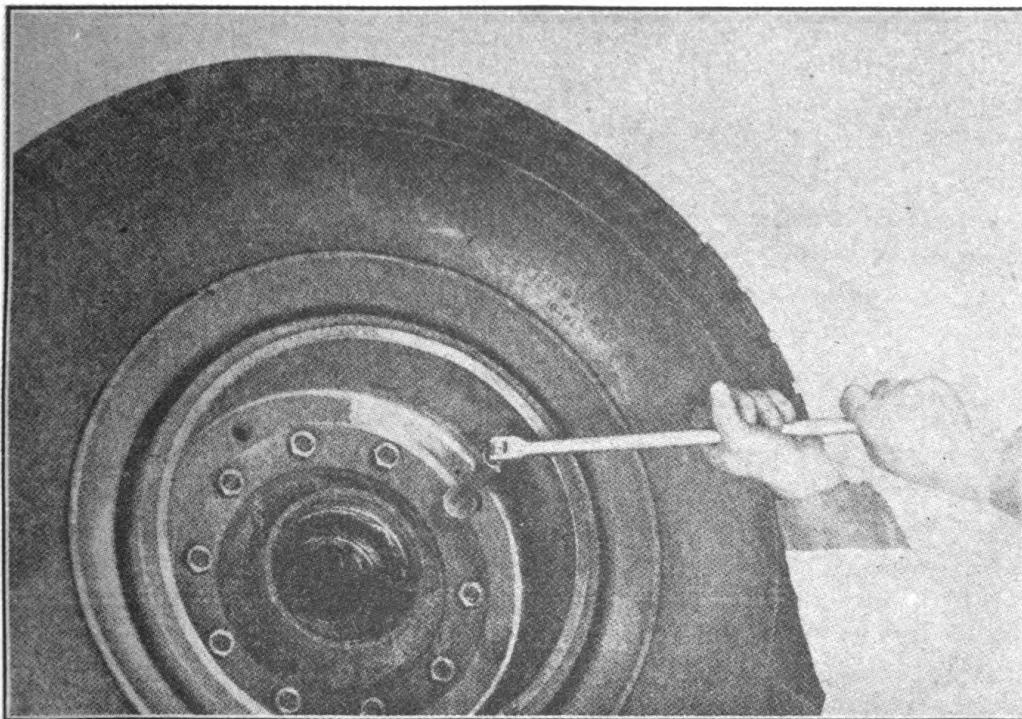

FIGURE 25. DRUM REMOVAL
(1) Remove wheel and hub in an assembly.
(2) If changing drum on the front wheel, block the wheel at both sides and remove the drum by removing the ten nuts holding it to the hub assembly (Figure 25). When removing rear drums it will be necessary to remove wheel assembly from hub and the hub assembly from axle. Remove the six slot-headed bolts and lift the drum off hub pilot.
(3) Remove any rust or dirt in the drum pilot and install the new drum.